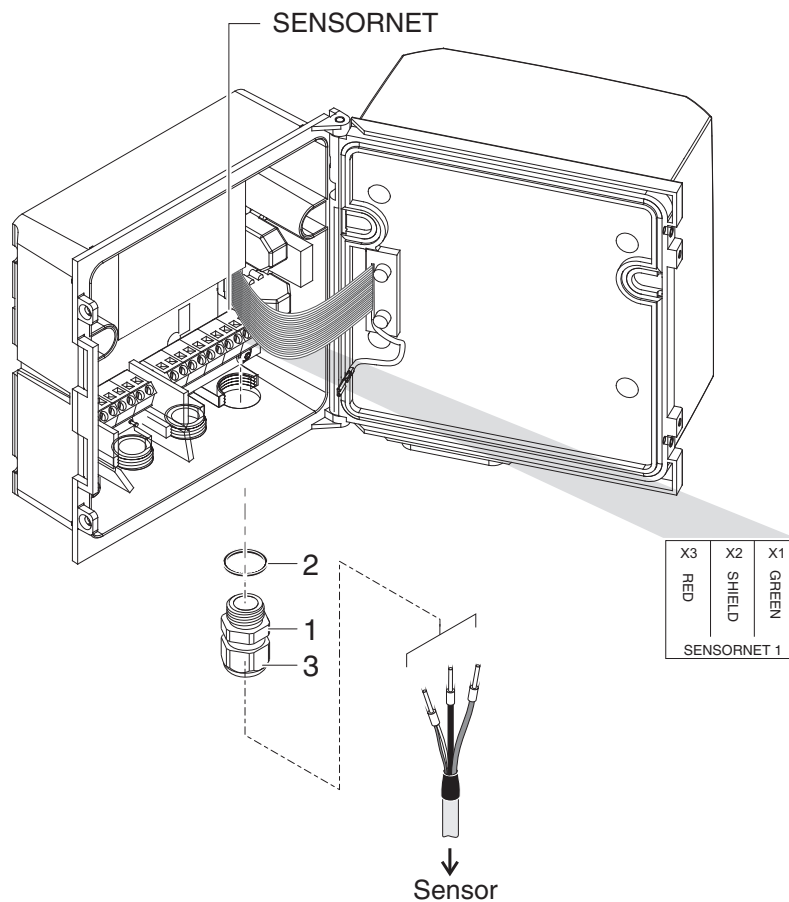

figure 3-14 Connecting the cable (example DIQ/S 281CR2)
- 2 Screw the cable gland (pos. 1 in figure 3-14) with the sealing (pos. 2) into the housing at the mounting position for the *SENSORNET* connection (see label on the bottom of the housing)
- 3 Loosen the cap nut (pos. 3 in figure 3-14).
- 6 Tighten the cap nut (pos. 3 in figure 3-14).